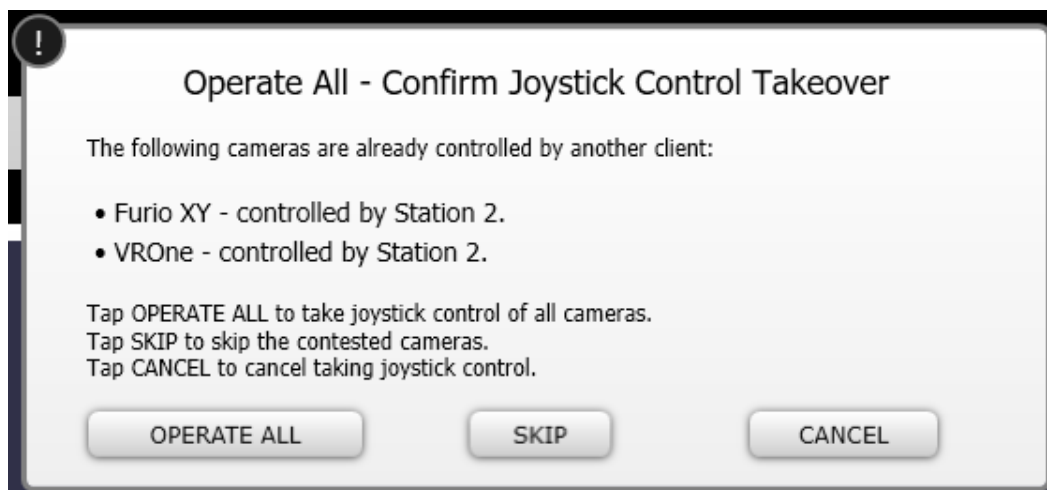

Figure 110 - OPERATE ALL - Confirm Joystick Control Takeover dialog box
2. In the **Operate All** dialog box, tap **Operate All** (Figure 110).